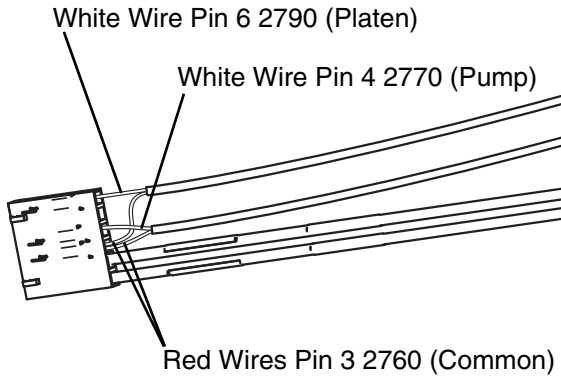

FIG. 4: Original Harness Wiring
4. The RTD that is not being replaced also needs to be connected to the new RTD harness. Refer to Figure 4 and cut the wires of this RTD at the original input connector.